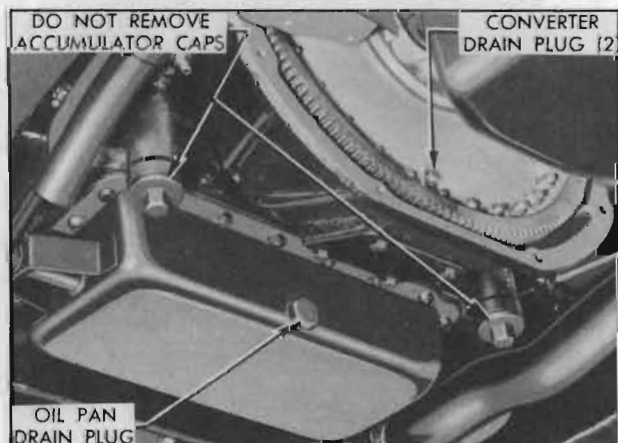

Figure 1-16—DynafLOW Transmission Drain Plugs
2. Loosen one converter drain plug, through opening in flywheel, then turn flywheel until opposite drain plug is straight down and remove this plug to allow converter to drain completely. See figure 1-16.
3. Remove drain plug and allow oil pan to drain completely. *Do not remove accumulator caps*. See figure 1-16.
5. Put 3 quarts of specified oil (subpar. a) in transmission. With engine idling and transmission in Parking (P) complete the refilling to bring oil level to $1\frac{3}{4}$ " below "FULL" mark on gauge rod. When transmission oil is warmed up, the oil level should then be at "FULL" mark on gauge rod.